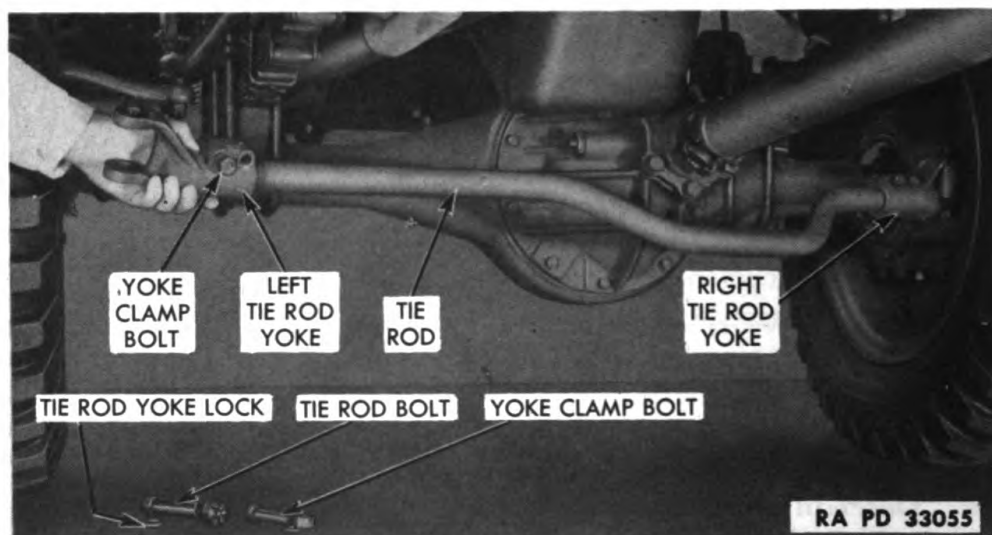

Figure 81—Tie Rod Adjustment
b. **Adjusting Toe-In** (fig. 81). Remove tie rod bolt. Remove the left tie rod yoke inner clamp bolt and washer, and loosen the outer clamp bolt. Turn the tie rod yoke onto rod to decrease toe-in, and off the rod to increase toe-in. If difficulty is experienced in securing proper toe-in, it may be necessary to disconnect the tie rod from the right steering arm and screw the end either on or off the tie rod one turn. Then screw the left tie rod end on or off the rod to secure the proper toe-in. Install the one tie rod and clamp bolt, and lock and tighten all clamp bolts. Install the nuts on the tie rod bolts. Tighten nuts wrench-tight, and back off $\frac{1}{3}$ to $\frac{1}{2}$ turn. Lock the nut with a cotter pin.